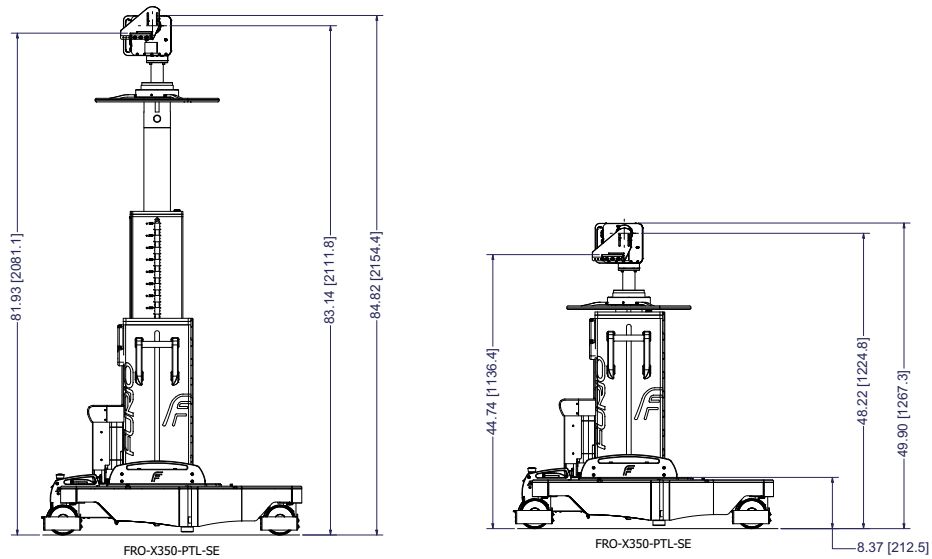

Figure 4 - Dimensions of the BlackBird SE Pedestal with an X350 Head (side view)
- **Figure 4** - Dimensions of the BlackBird SE Pedestal with a X350 Head